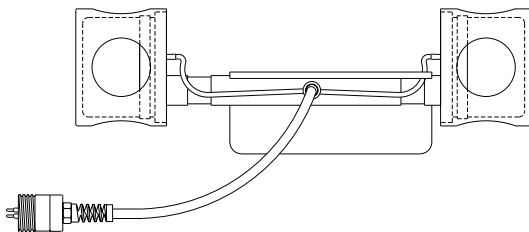

Figure 3
2.11.1 DUAL TRANSDUCER (MAG-1002D): The standard transducer (Figure 3) is a dual co-phased assembly. It is designed to be installed over the LAR V